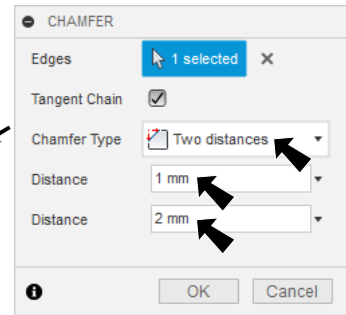

Fig. 11
Step 2. In the Chamfer panel set, **Fig. 11**